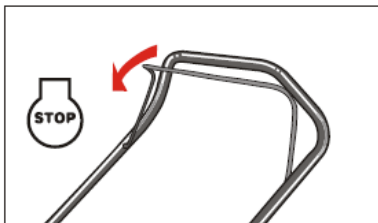

Fig. 10
1. Release the brake control handle to stop the engine and blade. (Fig. 10)